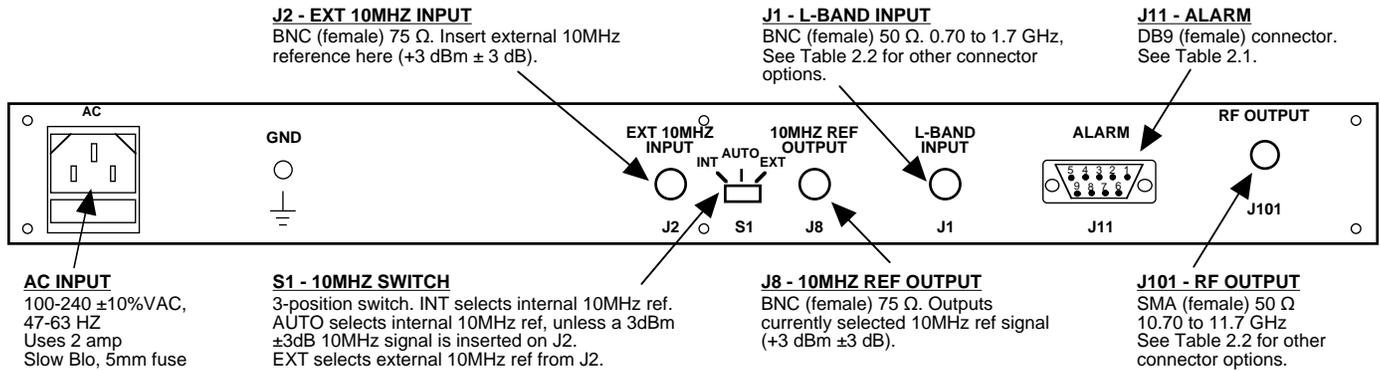

FIGURE 2.1 2115-109# Rear Panel I/O's
2.2 Rear Panel Input/Output Signals - Figure 2.1 shows the input and output connectors on the rear panel.
1. Connect a -40 dBm to -25 dBm signal to L-BAND INPUT, J1 (Figure 2.1).
6. Select either INT (for internal 10MHz ref), AUTO (for internal 10MHz ref UNLESS a external 10MHz, +3 dBm signal is connected to J2), or EXT (for external 10MHz, +3 dBm ref that is inserted at J2) on rear panel switch S1 (Figure 2.1).
8. Check that a 10MHz, +3 dBm \pm 3 dB signal is present at the 10MHZ REF OUTPUT (J8) (Figure 2.1).